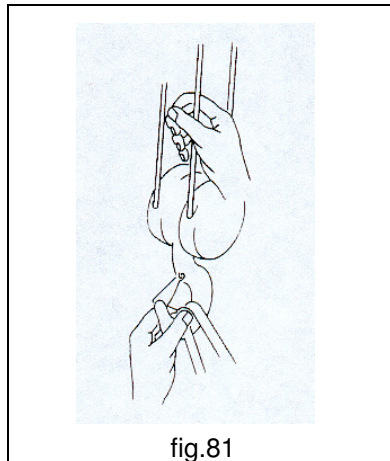

fig.81
- **NEVER** place your hands in the rotation pulleys, on the ropes or chains in movement, and on the slings during "tensioning" phases, in the areas coming into contact with the load and between the hook and sling (fig.81).